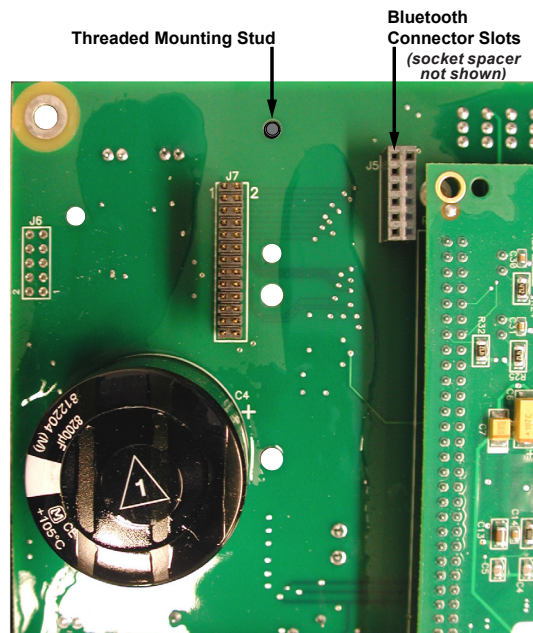

Figure 8.1-3 Bluetooth Module Removed from Main PCB
3. Remove the socket spacer from the main PCB's Bluetooth connector slots (Figure 8.1-3).
4. Remove the flat washer from the standoff; then unscrew the standoff from the threaded mounting stud (Figure 8.1-3).